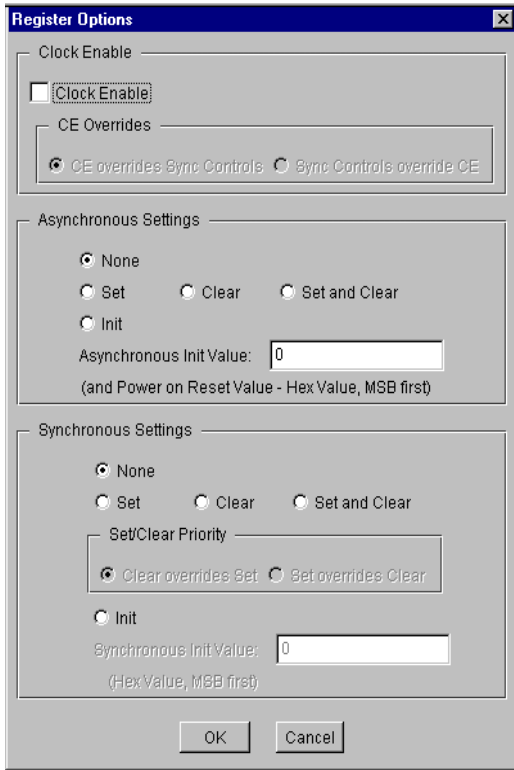

Figure 2: Bus Multiplexer Register Options
- **Register Options:** This button is only enabled when a registered output has been requested via the Output Options. Clicking on this button brings up the Register Options parameterization screen (See Figure 2).
The Register Options parameterization screen for this module is shown in Figure 2. The parameters are as follows: